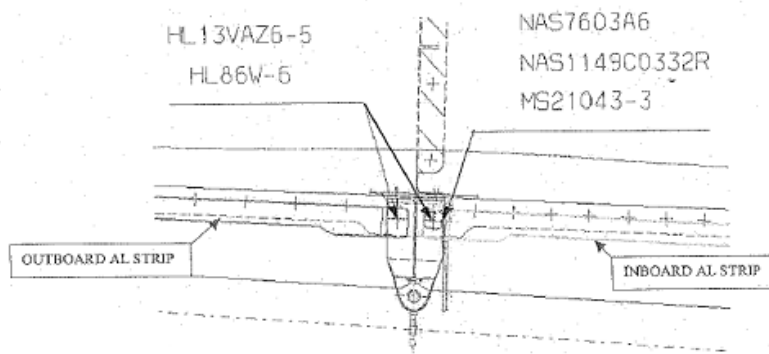

Fig.11 – Electrical Bonding strip upper view (common for LH and RH).
WITH REFERENCE TO FIG.11, REMOVE ANY GREASE, OIL AND PAINT FROM THE DASHED AREA OF THE ALUMINUM STRIP LOWER SURFACE, TO ASSURE PROPER BONDING
- 41 Recover the electrical bonding by applying the aluminum strips. Refer to fig. 11 and to SRM, ATA 51-70-80, Chapter 6 (*Repair Procedure for the Horizontal Stabilizer Hinge Corrosion*), Section B (*Repair*), paragraph 4 (*Aluminum Strip Installation*).
- 44 With reference to fig. 11, apply an ALODINE 1200 protection coat on the dashed area of the aluminum strip - upper surface (Ref. AMM 51-23-00).